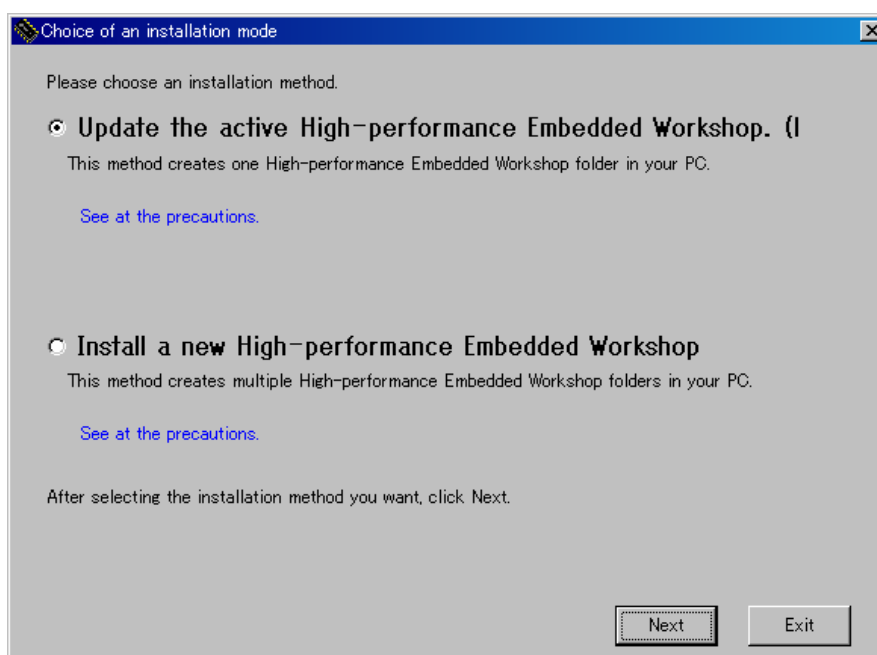

Figure 3.2.2 E10A-USB Software Installation Procedure (2)
- (2) When the dialog box shown in Figure 3.2.2 is displayed, select "Update the active High-performance Embedded Workshop" and click "Next".